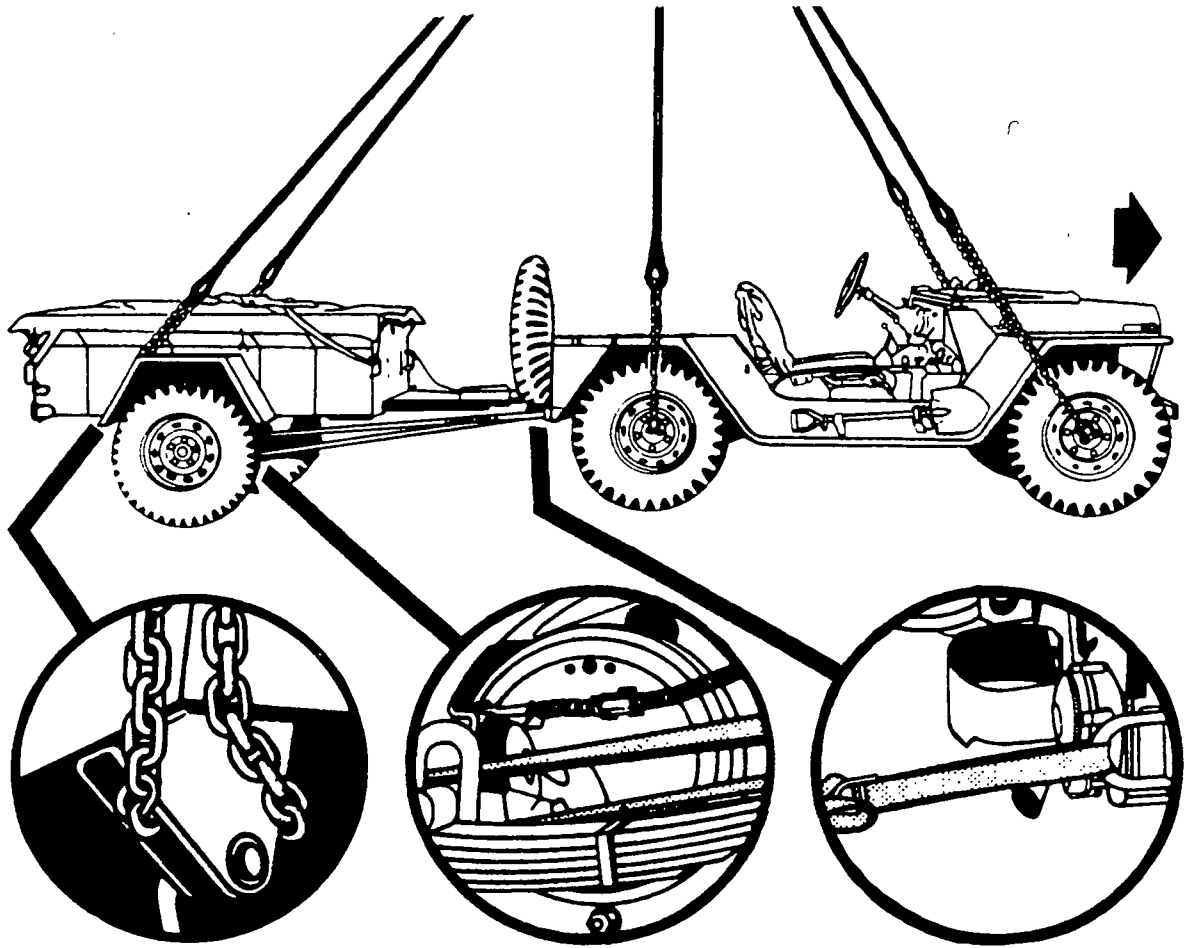

Figure 2-20. M151 1/4-Ton Truck with Radio, TTW Set, AN/VSC-2
- Same as M151 1/4-ton truck with M416 1/4-ton trailer (Figure 2-20) except for webbing.
- Same as M151 1/4-ton truck with M416 1/4-ton trailer (Figure 2-20).
Same as M151 1/4-ton truck with M416 1/4-ton trailer (Figure 2-20).